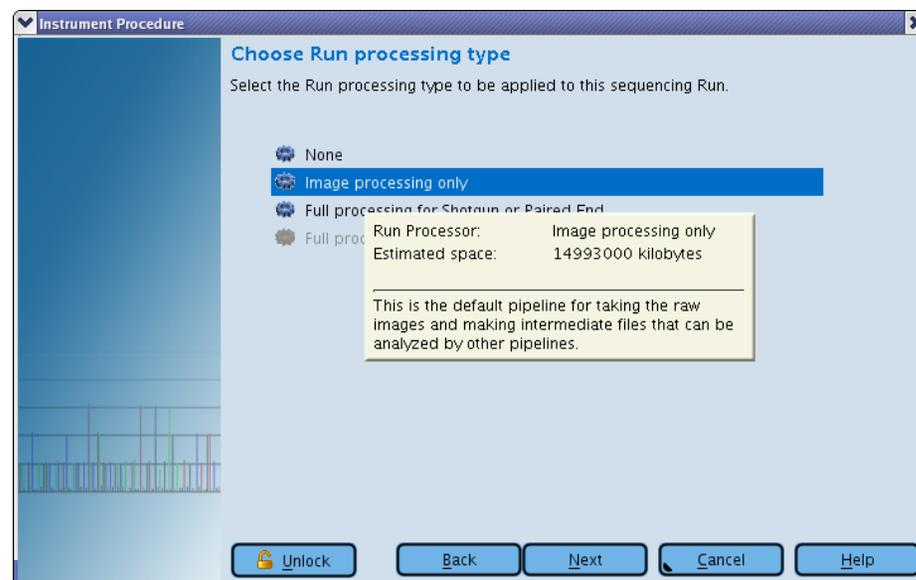

Figure 25: The Run Wizard's sixth window: Choose Run Processing type
- This opens the Run Wizard's sixth window: Choose Run Processing type (Figure 25).